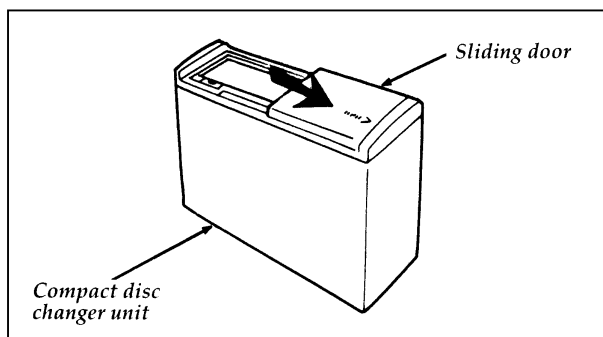

Figure 1
1. Open the cover door. Open Compact Disc Changer trunk unit by sliding door to the front (sedan) or rear (wagon) (Figure 1).